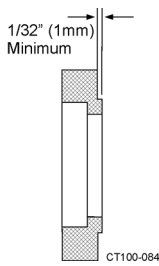

Figure 22 - Replace Rotary Seal if Less than Minimum
**NOTE:** Replace rotary seal when seal face extends less than 1/32 inch (1 mm) from the body (Figure 22).